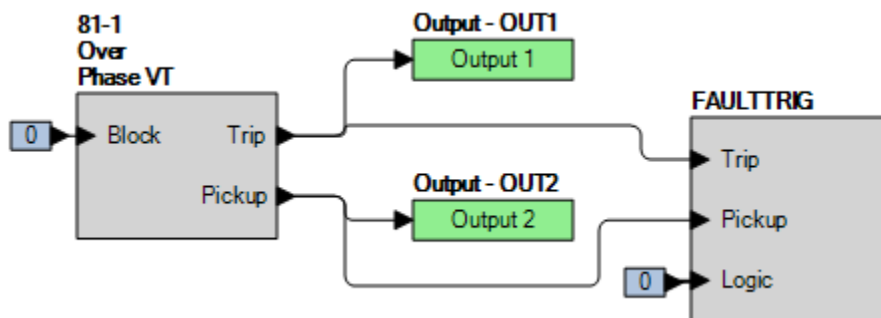

Figure 61-1. BESTlogic*Plus* Settings (Overfrequency)
Step 2: Use BESTCOMS*Plus* to configure the BESTlogic*Plus* programmable logic shown in Figure 61-1.
Step 4: Prepare to monitor the 81-1 function operation. Operation can be verified by monitoring OUT2 (see Figure 61-1).